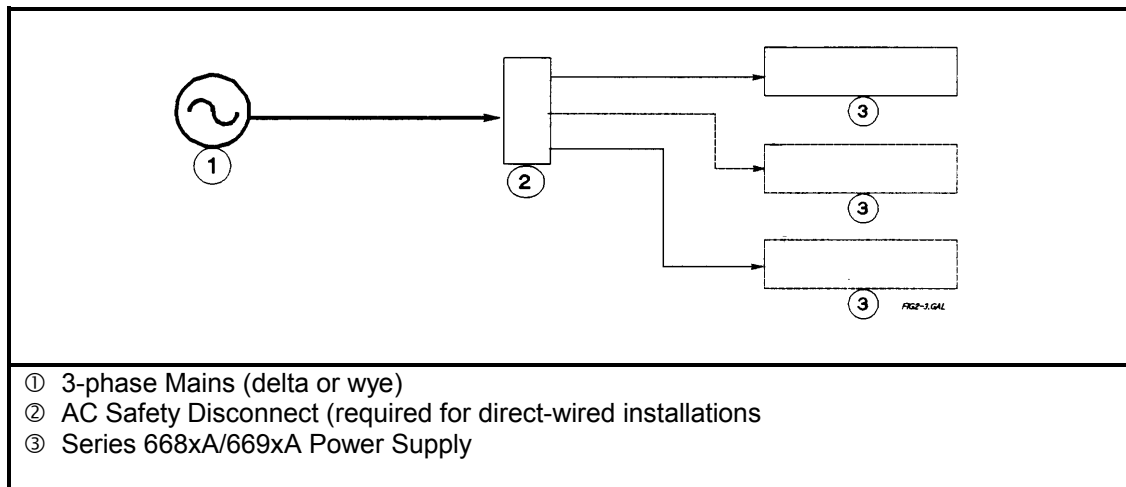

Figure 2-4. Series 668xA/669xA Overall Wiring Diagram.
The Series 668xA power supply requires a 3-phase power source that provides 7350 VA (6000 W) maximum. The supply has a delta input (no neutral connection) and will accept power from either delta (triangle) or wye (star) sources. Two voltage ranges are available (see "AC Input Ratings" in Table 1-4a). *In order to maintain phase current balancing, the power source should be a dedicated line with only Agilent Technologies Series 668xA/669xA supplies drawing current from it.* A disconnect box located near the power supply (see Figure 2-4) is recommended for all installations and *is mandatory for direct-wired installations.*
The Series 669xA power supply requires a 3-phase power source that provides 9000 VA (7950 W) maximum. The supply has a delta input (no neutral connection) and will accept power from either delta (triangle) or wye (star) sources. Two voltage ranges are available (see "AC Input Ratings" in Table 1-4a). *In order to maintain phase current balancing, the power source should be a dedicated line with only Agilent Technologies Series 668xA/669xA supplies drawing current from it.* A disconnect box located near the power supply (see Figure 2-4) is recommended for all installations and *is mandatory for direct-wired installations.*
- c. **Series 668xA** - Unscrew the fuse caps from the rear panel (2, Figure 2-4). Verify that the fuse is as specified on the label. Replace the fuse.